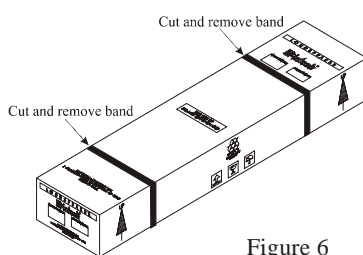

Figure 6
13. Remove the banding material from the shipping carton. Refer to figure 6.